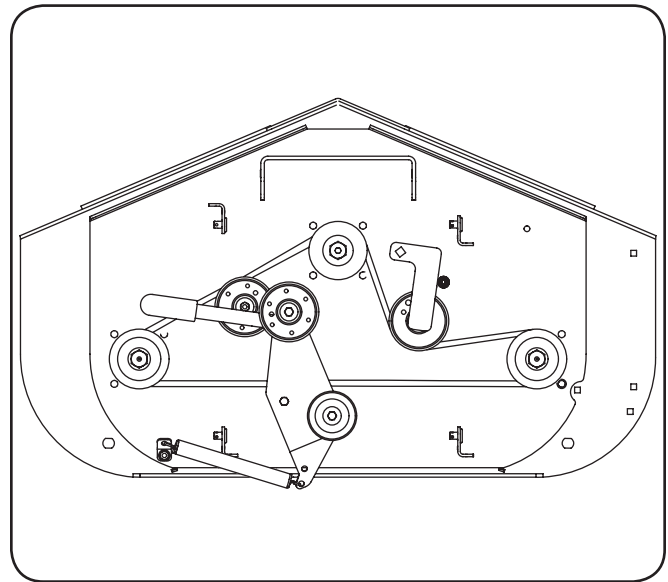

Figure 1-5
- Reverse the process to install the belt. See Figure 1-5 for proper belt routing.